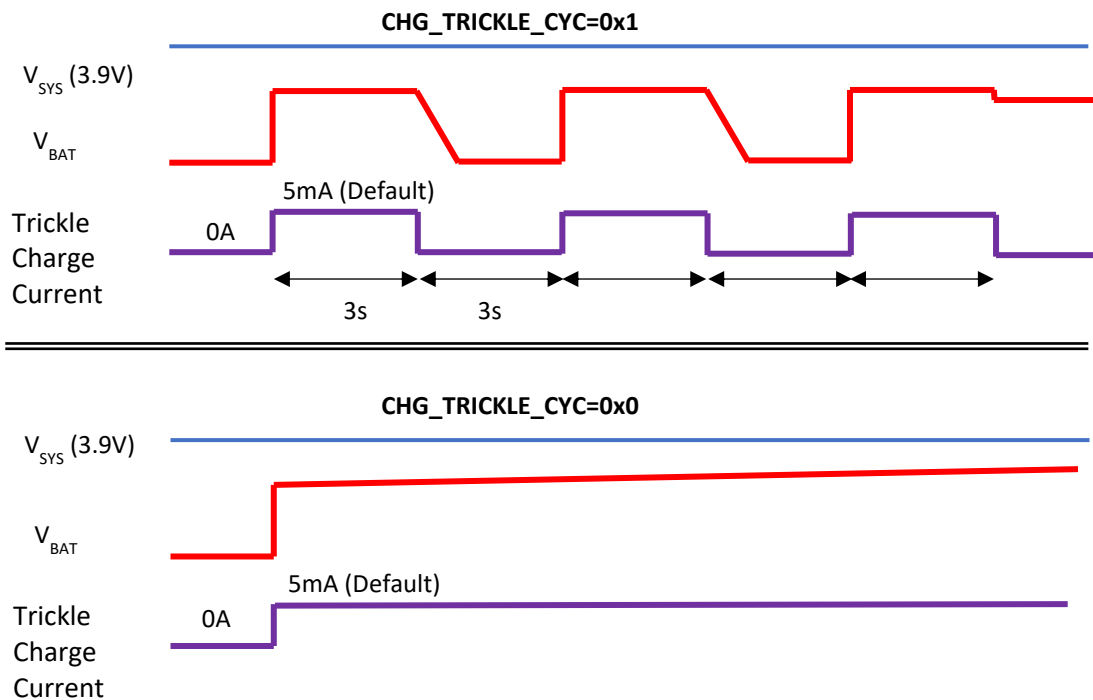

Figure 12: Trickle Charge Behavior
- When $V_{BAT} < 2.2$ V, the low-level current is called the trickle charge current. Continuous operation mode and periodic operation mode can be selected by the CHG_TRICKLE_CYC bit. And trickle charge current setting is also selectable by the CHG_TRICKLE bits. The default setting is periodic operation mode with 5mA setting, means 2.5mA average trickle charge current, see Figure 12.